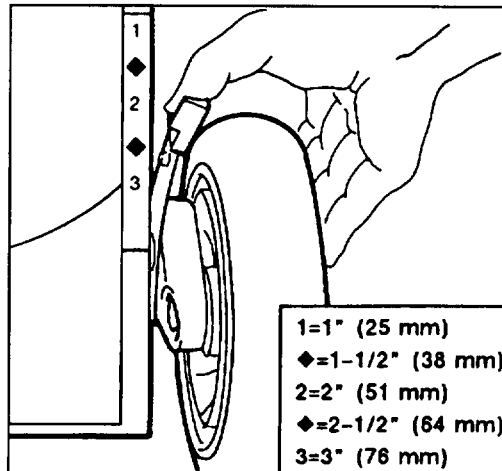

Figure 10
2. For easier adjustment, lift housing up so wheel is off ground. Squeeze adjusting lever toward wheel and move to desired setting (Fig. 10). Assure pin on adjusting lever engages notch in housing. Adjust all wheels to the same setting.